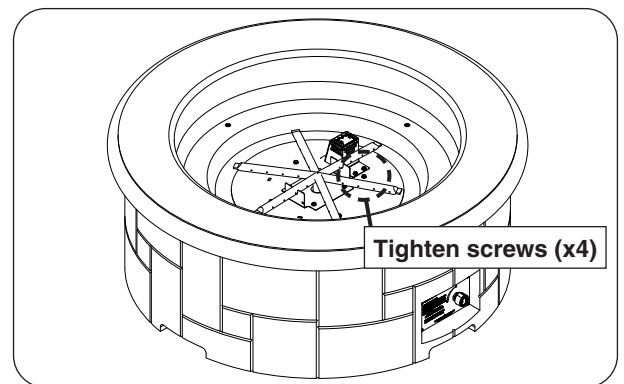

Fig. 33-3 Install burner
2. Use a $\frac{5}{16}$ " nut driver to fasten the burner to the base (see Fig. 33-3).